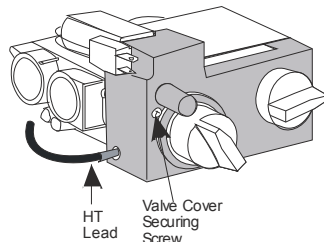

Figure 51
3. Remove the valve cover securing screw (see **Figure 51**).